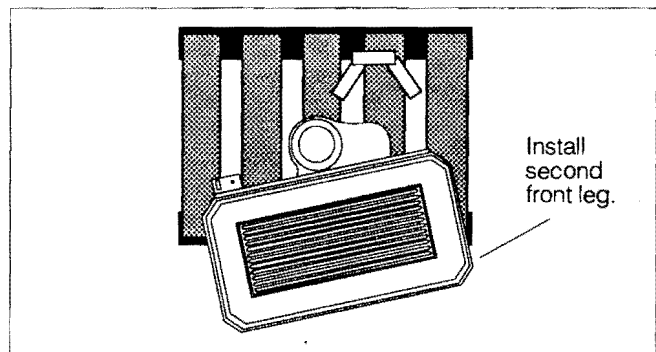

Figure 4.
**Step 3.** Slide the stove forward and swing the other front corner off of the pallet enough to secure the other front leg. Fig. 4.